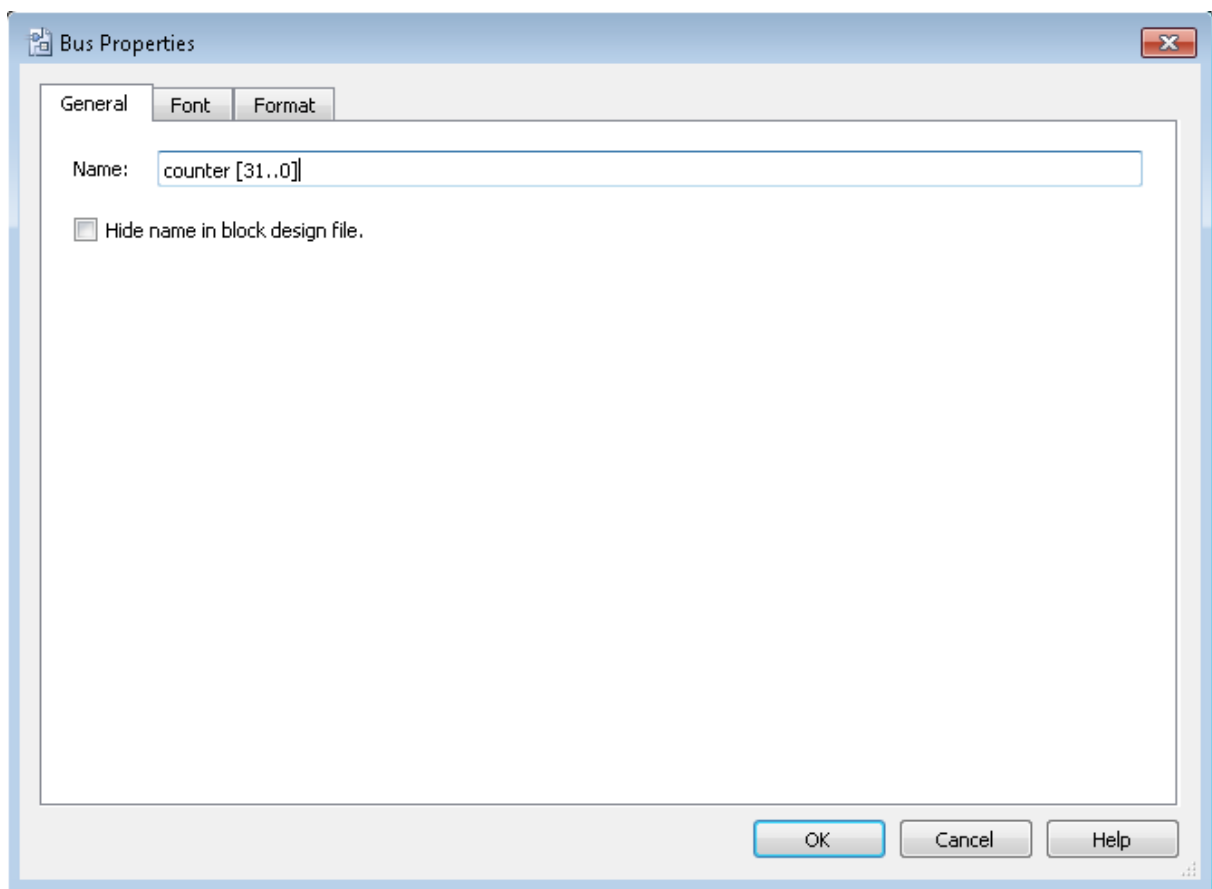

Figure 3-20 Change the output BUS name
- j. Type counter [31..0] as the bus name (see **Figure 3-20**). The notation [X ..Y] is the Quartus II method for specifying the bus width in BDF schematics, where X is the most significant bit (MSB) and Y is the least significant bit (LSB).